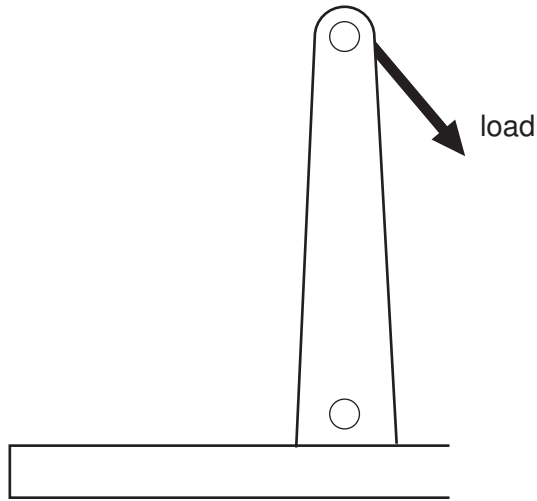

Fig. 5
- (ii) During the building of this catapult the student decided to test the deflection of the arm upright. A dial gauge was used to measure the deflection. Add sketches and notes to Fig. 5 to show how the gauge would be set up to measure the deflection.